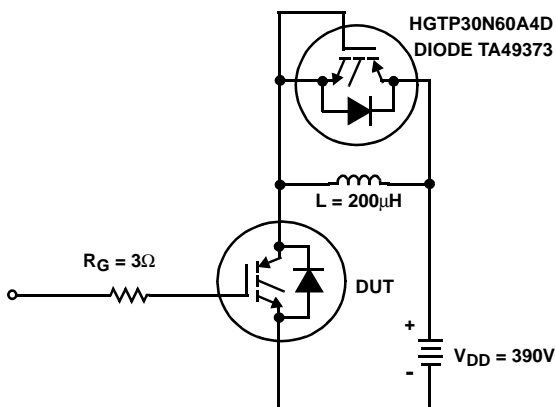

FIGURE 24. INDUCTIVE SWITCHING TEST CIRCUIT
- Values for two Turn-On loss conditions are shown for the convenience of the circuit designer.  $E_{ON1}$  is the turn-on loss of the IGBT only.  $E_{ON2}$  is the turn-on loss when a typical diode is used in the test circuit and the diode is at the same  $T_J$  as the IGBT. The diode type is specified in Figure 24.